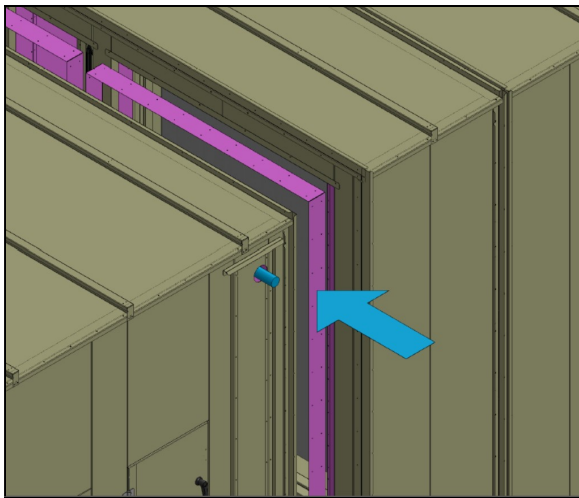

Figure 10: Internal joint cover pieces
- Internal joint cover pieces are also provided. These pieces (*shown in pink on Figure 10*) must be fixed by the interior of the air handling unit section. It is the installer decision to apply another sealant joint before fixing the internal joint cover **or** depending on the client preference and/or the project application (**Figure 10**).